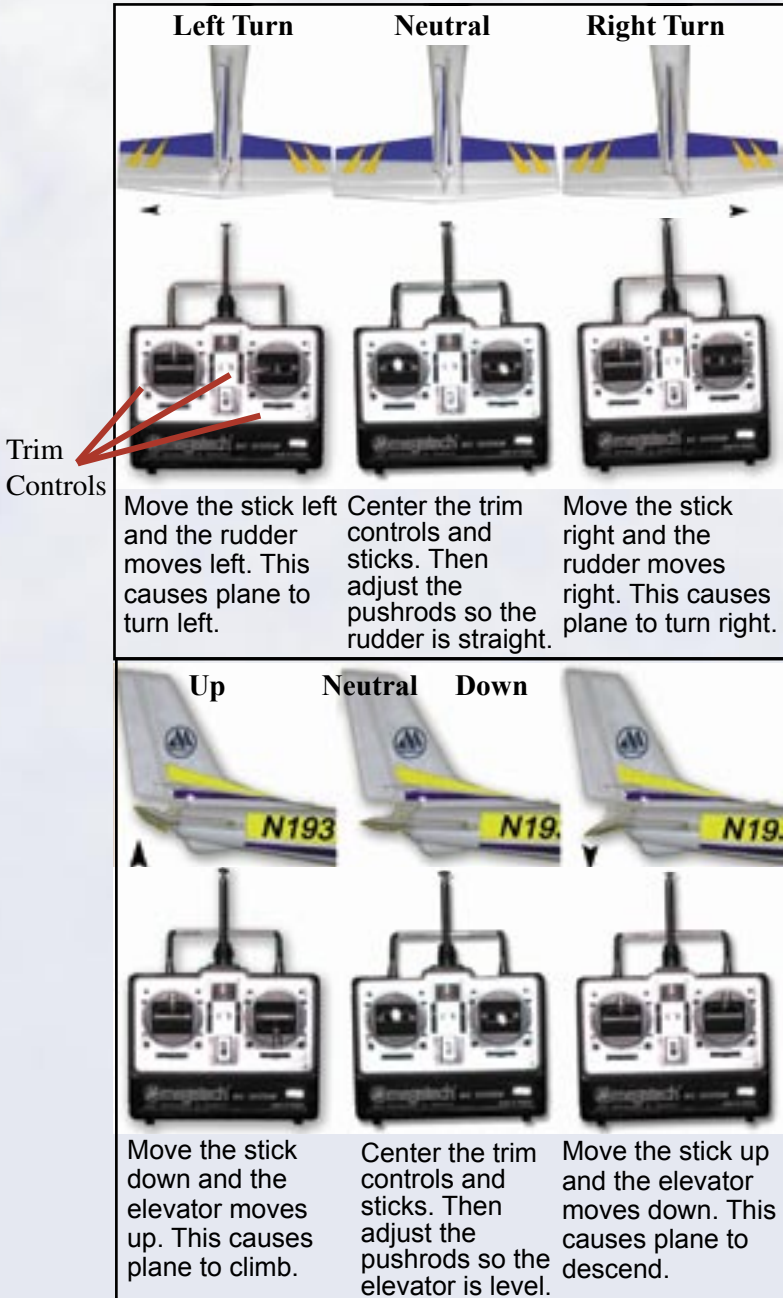

Figure 14 - Control Stick Movements
- B. At this time, move the rudder and elevator control stick (the right control stick), to see how the controls operate your Air Strike®. Notice that you can operate the rudder and elevator at the same time. This helps provide smooth, controlled flights. See **Figure 14** for reference.